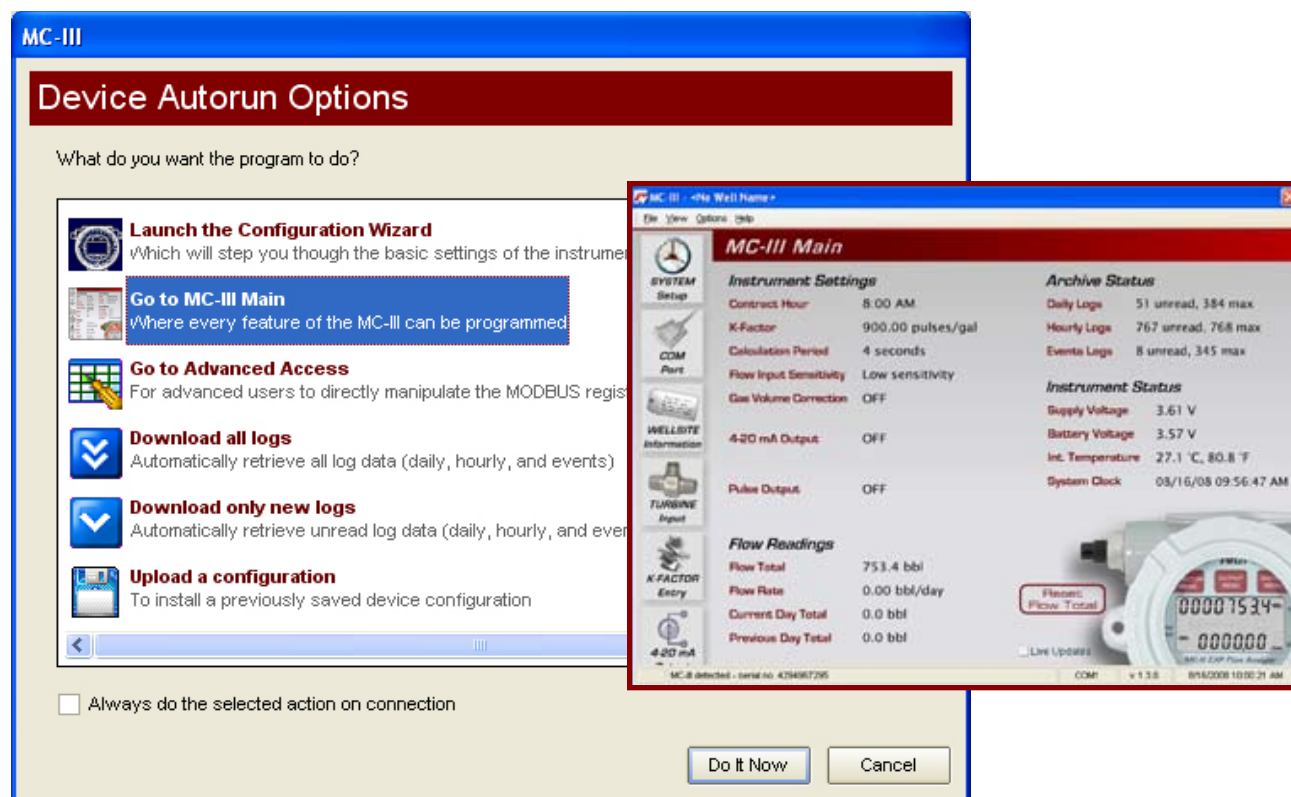

Figure 4.12—MC-III Main configuration option for complete access to configurable parameters
- The MC-III Main screen (Figure 4.12, page 43) gives users complete access to all configuration parameters.